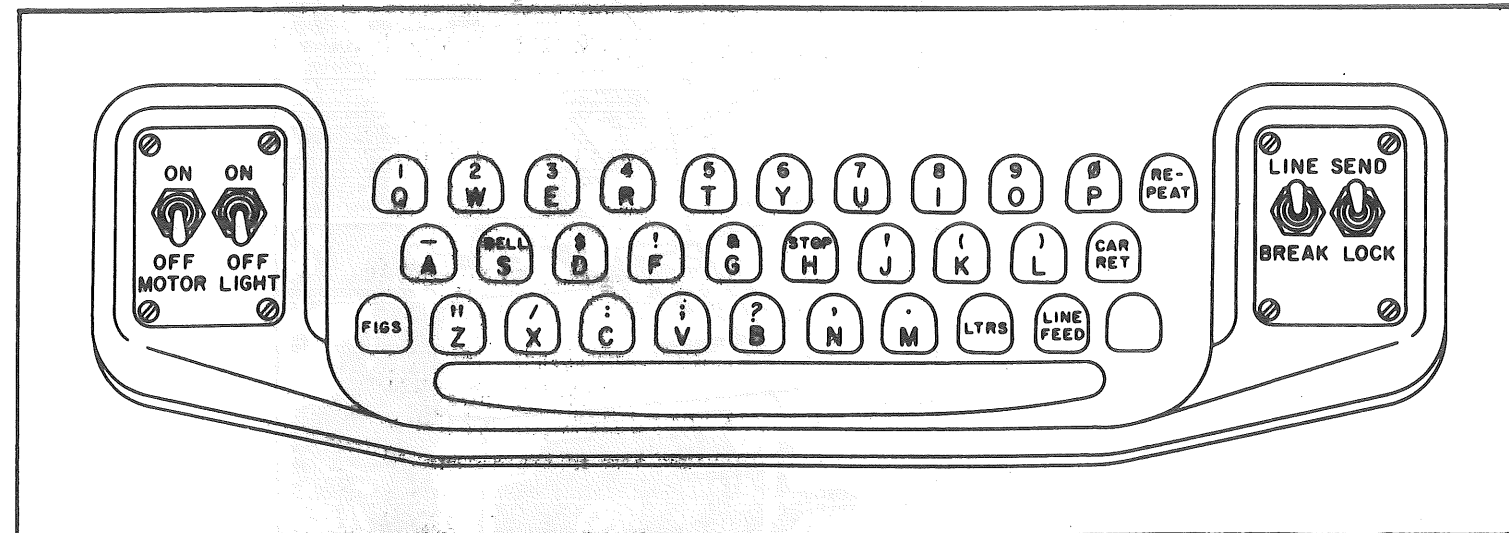

Figure 2. TT-76(*)/GGC Keyboard.
- b. Place switches on TT-76(*)/GGC as follows (fig 2).